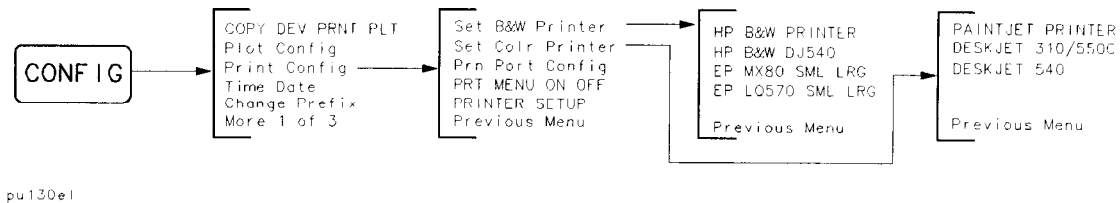

Figure 6-9. Printer Configure Menu
- Referring to Figure 6-9 select the printer configuration for your spectrum analyzer by pressing the appropriate keys: